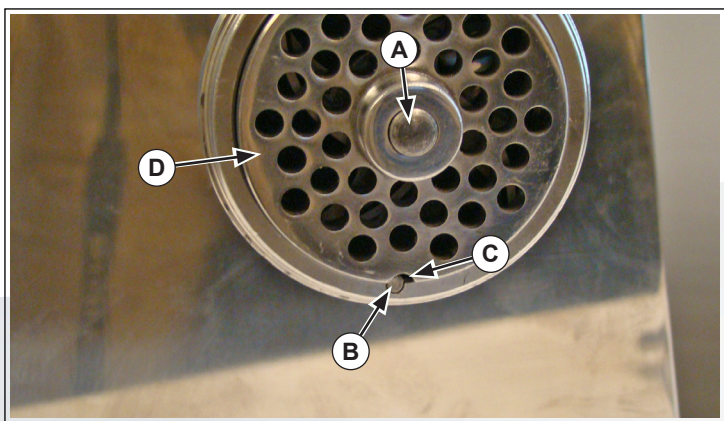

Figure 6. Grinder Plate, Cutout, Locating Pin and Blade Shaft
- Place the grinder plate (D) onto the blade shaft (A) so that the cutout (C) slides over the locating pin (B). See Figure 6.
- Remove the grinder plate (D) from the blade shaft (A). See Figure 6.